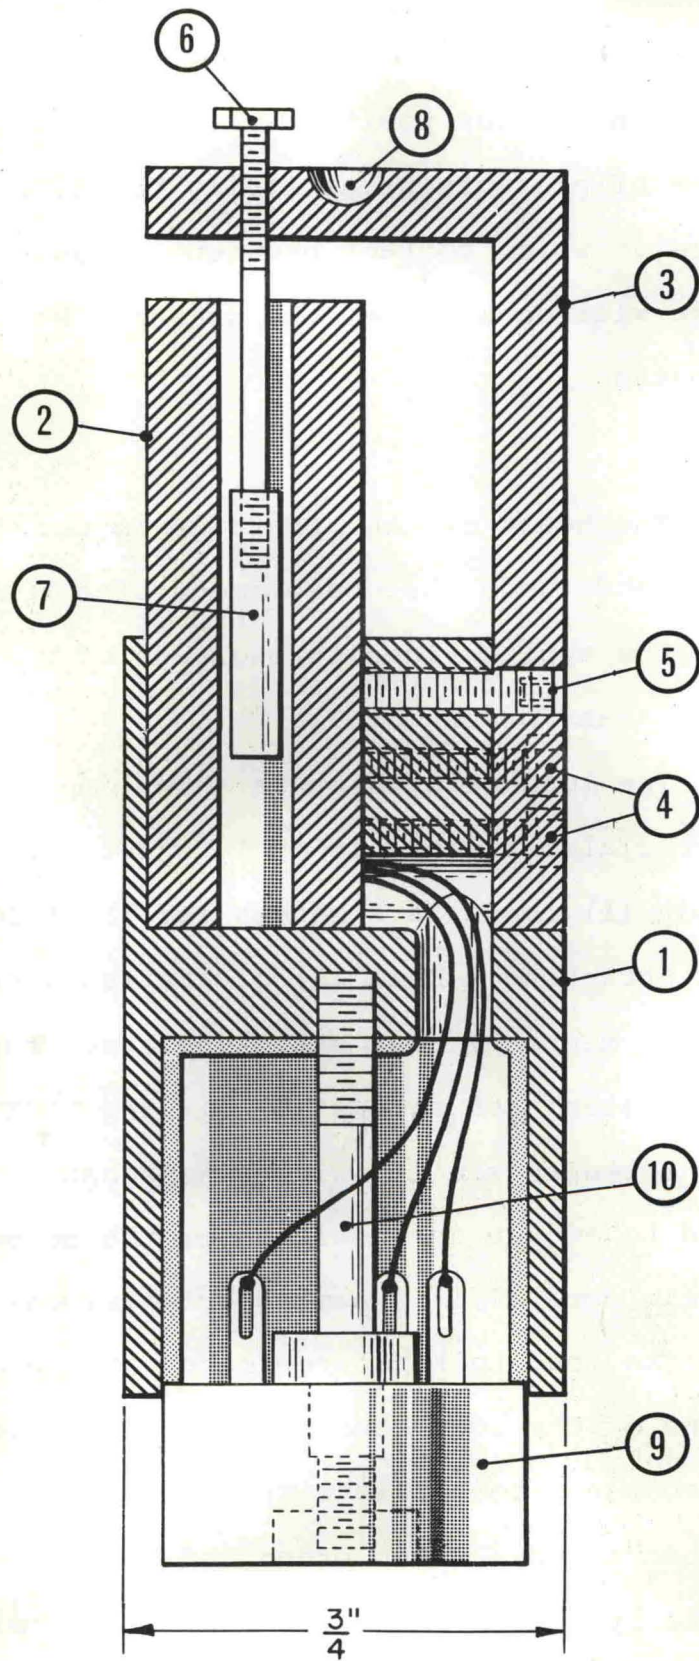

Fig. 5 Sectional drawing of load cell.
The load cell which is shown in Figures 5 and 6 is constructed almost entirely of Type 303 stainless-steel. The main body (1) contains a recess for the LVDT (2) and provisions for attaching a beam (3) of the required mechanical sensitivity by means of four stainless steel cap screws (4). Two stainless steel set screws (5) fix the LVDT in position. A partially threaded rod (6) with a hexagonal cross-section head is used to adjust the position of the 50-50 iron-nickel alloy magnetic core (7). A hemispherical recess (8) in the beam allows the load to be concentrated at the center of the beam by means of the load concentrator ((6), Figure 1). The six leads necessary to activate the LVDT and measure its output are connected to a seven prong radio plug (9) which fits into a specially designed bottom connection similar to one previously described(14). Leads to this connection are brazed to hardened steel conical pins and lead from the chamber as